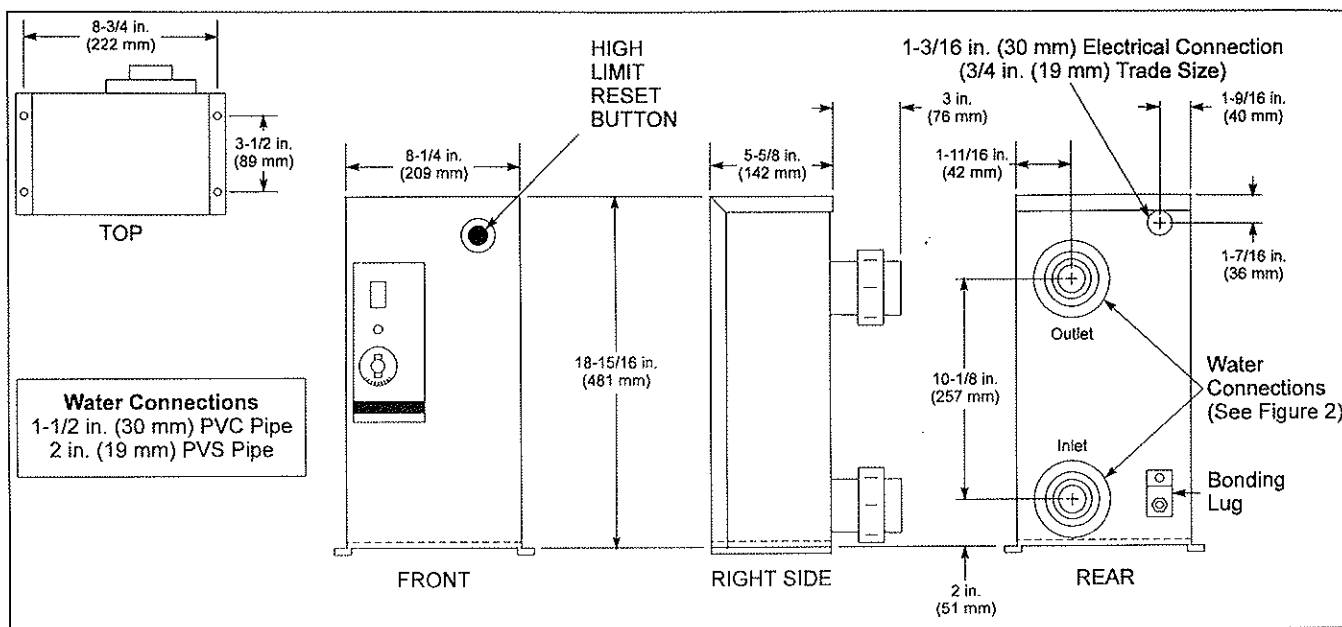

Figure 1. Dimensional Specifications
The Elektra Star heater is Underwriter's Laboratory (UL)-listed under Standard 1261 and Canadian Standards Association (CSA) approved for indoor or outdoor installation. Install the Elektra Star heater in accordance with all local codes, ordinances, and utility company requirements. In the absence of such codes, install the heater in accordance with the latest edition of the National Electrical Code (NEC), ANSI/NFPA 70, including the special requirements of Article 680, or with the requirements of the authority having jurisdiction. In Canada, install the heater in accordance with the latest edition of the Canadian Electrical Code (CEC), Part 1, and local codes. Do not install the heater on dirt floors. Use the four holes in the sheet metal flange at the base of the heater to fasten it to skid-mounted systems (see Fig. 1).